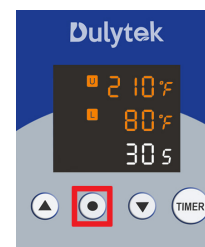

Fig. 3
3. Press Set **⊙** button again (Fig. 3) to go to the temperature setting mode for the bottom platen.